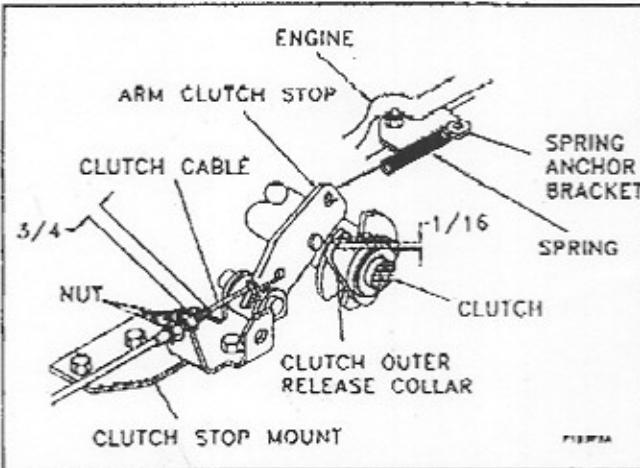

Figure 2.
Note: Spring must be positioned exactly as shown in figure 2. in order to work properly.
7. To adjust Clutch Cable, move nuts on the cable so 3/4" of thread is exposed (See figure 2). When Clutch Stop Arm is in run position and Clutch Outer Release Collar is in position
shown on figure 2 the gap between Clutch Stop Arm and Clutch Outer Release Collar should be 1/16". See figure 2.